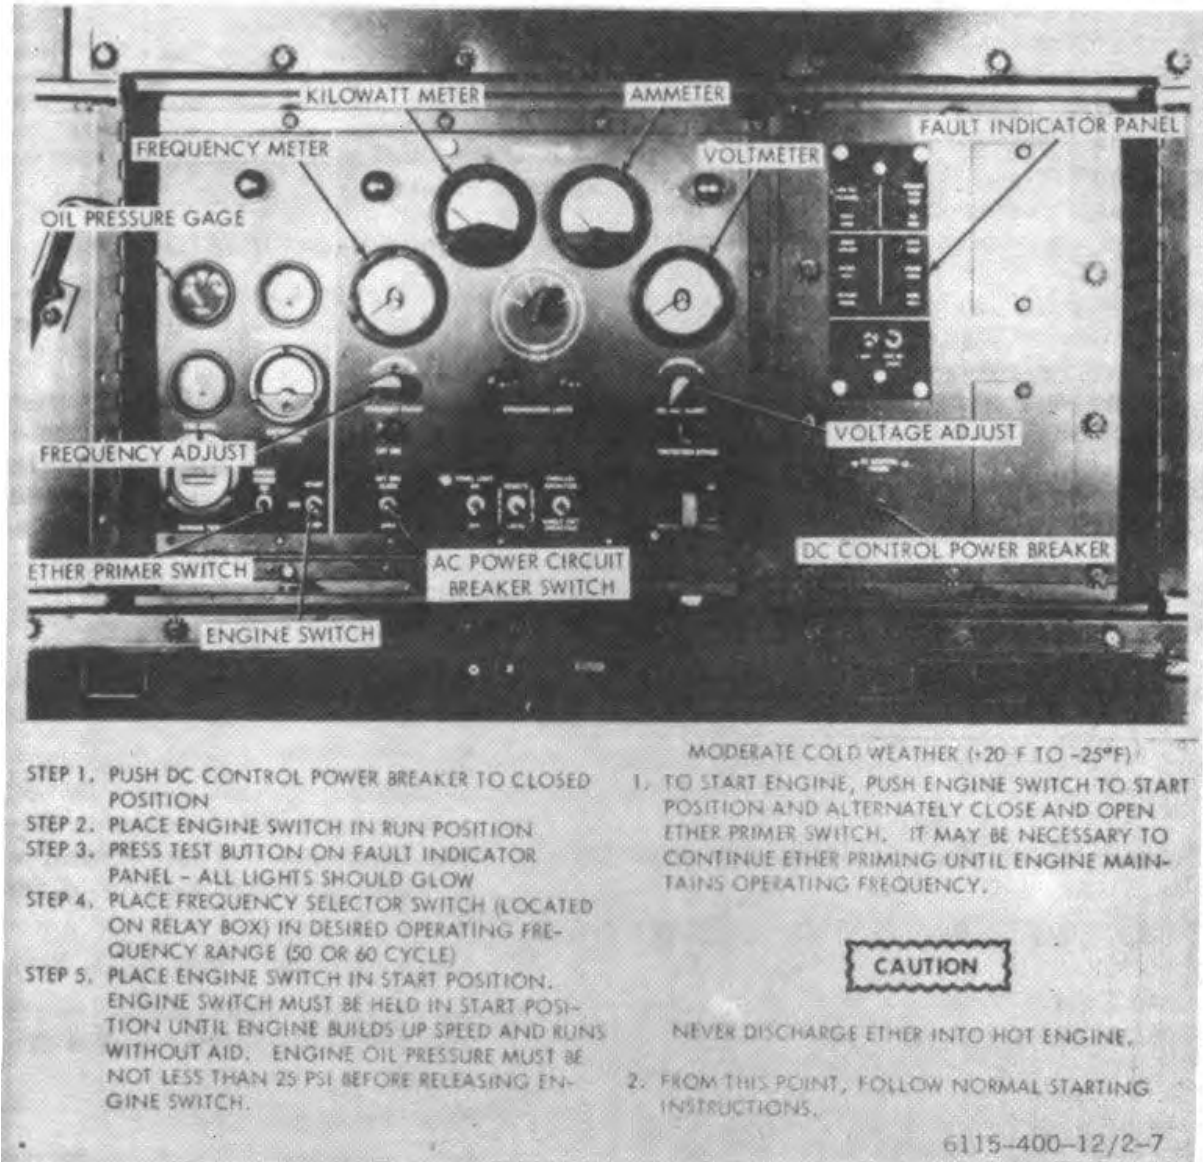

Figure 2-7. Starting instructions.
- (2) Perform the preventive maintenance checks and services (para 3-6).
- (3) Make the necessary load connections to the generator set (para 2-5).
b. *Normal Starting.* Refer to figure 2-7 and start the unit.